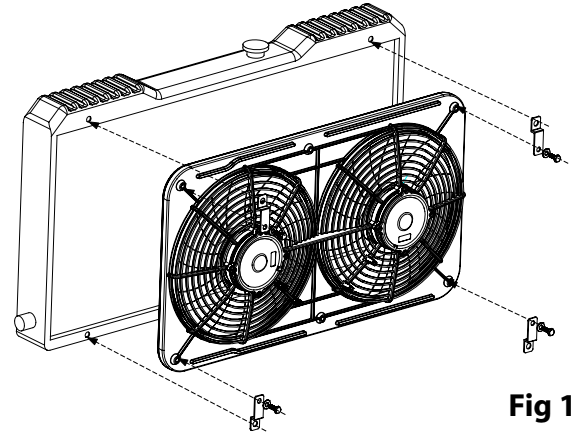
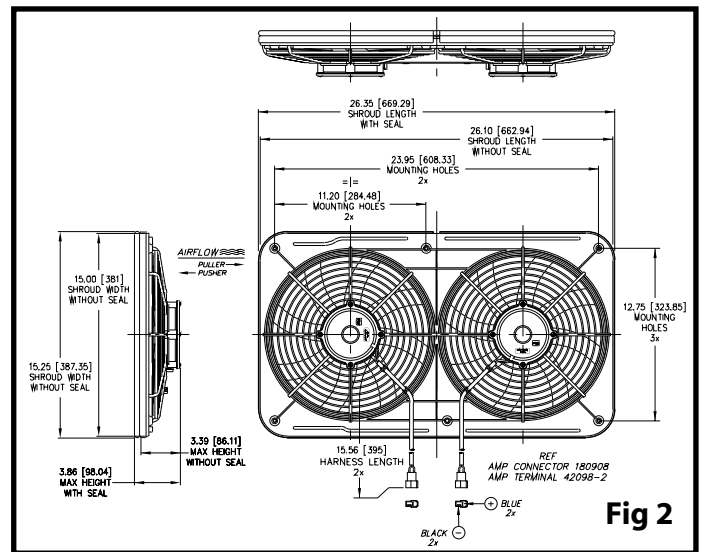

Fig 1
Fig 2
2. We do not recommend the use of nylon tie kits or any other "through core" mounting methods for this fan assembly. The 225 watt motors used in this dual fan assembly are too heavy and produce too much starting torque to be supported by the radiator fins. We recommend purchasing a prefabricated mounting kit **MARADYNE® MFA107** or fashioning metal brackets that will attach to at least four of the six 1/4 - 20 nylon reinforced nuts pressed in the back of the shroud and then bolted to the U-channels of the radiator/heat exchanger (See Fig 1.). 1" X 1/4-20 bolts are recommended to attach the brackets to the shroud. Bolts must **NOT** be long enough to contact the radiator/heat exchanger. See Fig 2 for bolt pattern.